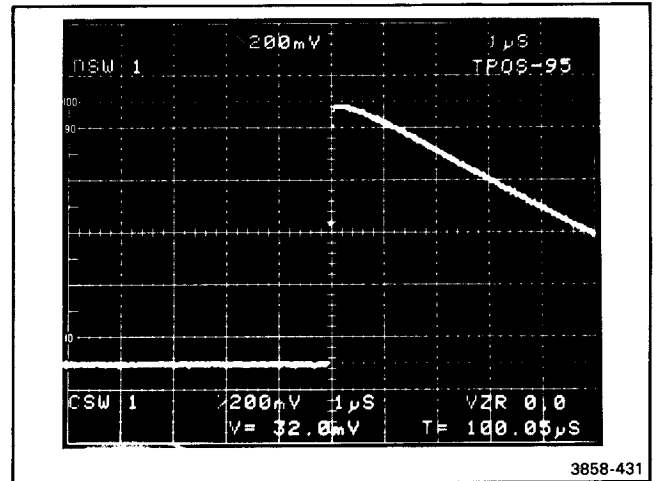

Figure 4-5. Measuring Timing to 0.1%.
- c. Set CURSORS "1" control so that cursor falls on rising edge of time mark as close to 50% point as possible, see Figure 4-5.